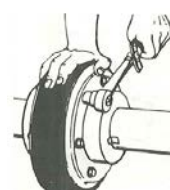
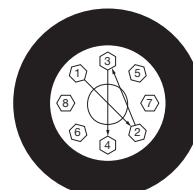

Figure 6
Figure 7
- Hold split of flexible element closed as shown in Figure 6. Tighten (finger tight) one or two screws 180° from split. Using both hands, knead the tire pulling it toward the split. Hold split closed and tighten (finger tight) the next two screws farthest from the split. Repeat the procedure on all remaining clamp ring screws. Use a torque wrench to tighten each clamp ring screw in succession to the torque specified in Table 1. Using a torque wrench, recheck all
- clamp ring screw torque values before coupling operation. Optional Procedure: Hold split of flexible element closed as shown in Figure 6. Tighten (finger tight) one or two screws 180° from split. Using both hands, knead the tire pulling it toward the split. Hold split closed and tighten (finger tight) the next two screws in a star or cross pattern as shown in Figure 7. Repeat the procedure on all remaining clamp ring screws. Use a torque wrench to tighten each screw to the torque specified in Table 1. Using a torque wrench, recheck all